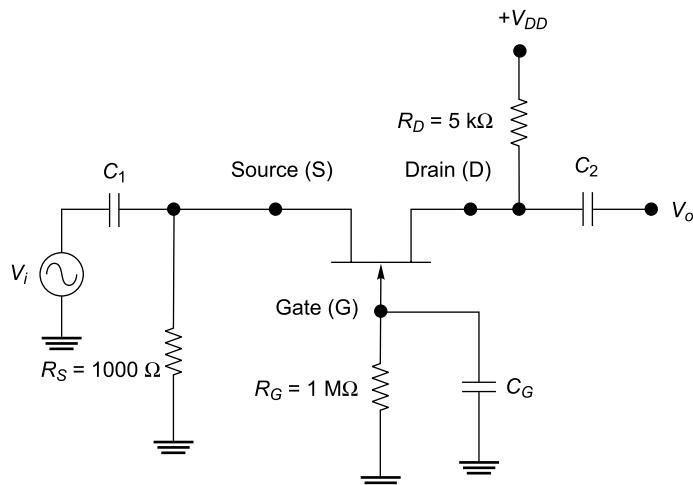

Fig. 1.85
- 1.18** Figure 1.85 shows a common gate JFET amplifier circuit. Determine the voltage gain input resistance and output resistance of the amplifier. Assume $g_m = 4000 \mu\text{S}$ and $r_d = 50 \text{ k}\Omega$.